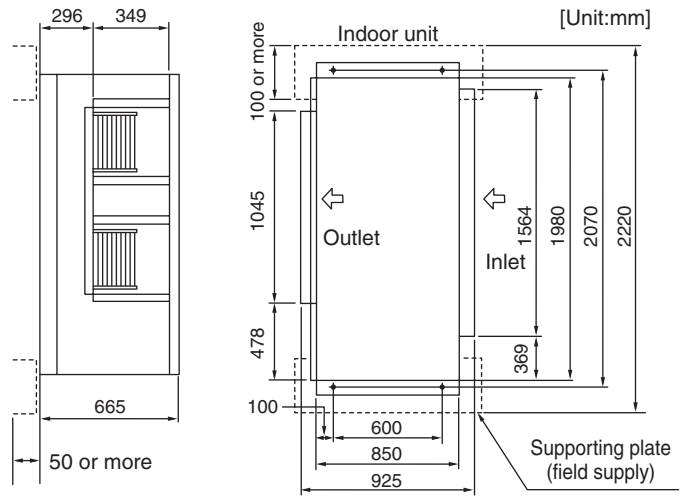

Fig.4
3. Relation of positions between the ceiling opening and the suspension bolt of the indoor unit. (Refer to Fig.4)